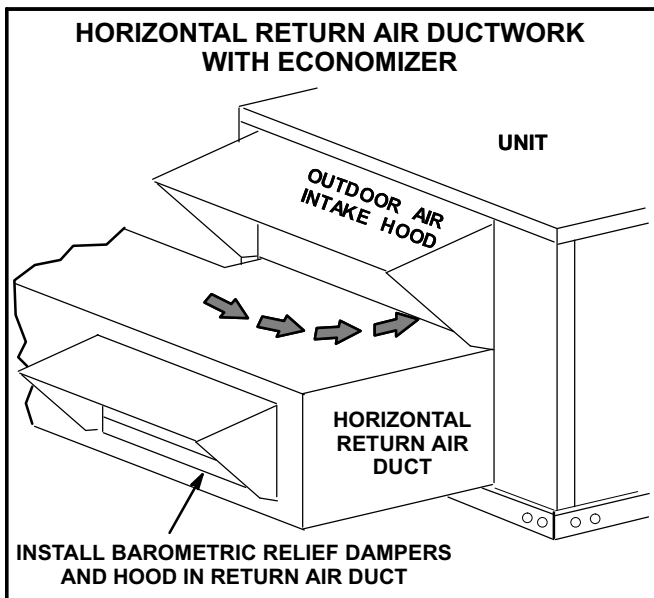

FIGURE 4
- 5- Install return air duct beneath outdoor air intake. See figure 4. Install barometric relief damper in lower hood and install in duct as shown in figure 4.